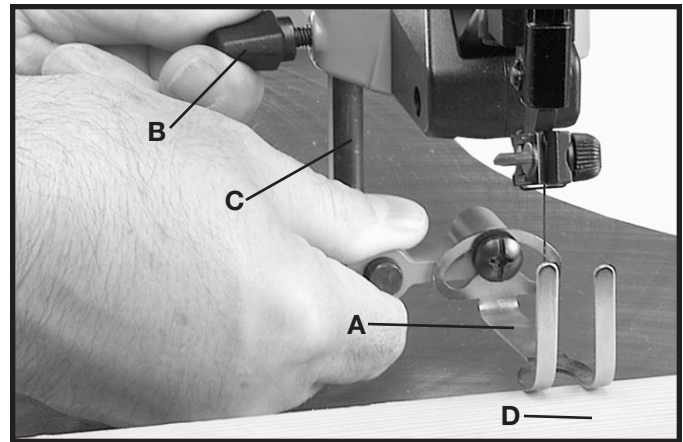
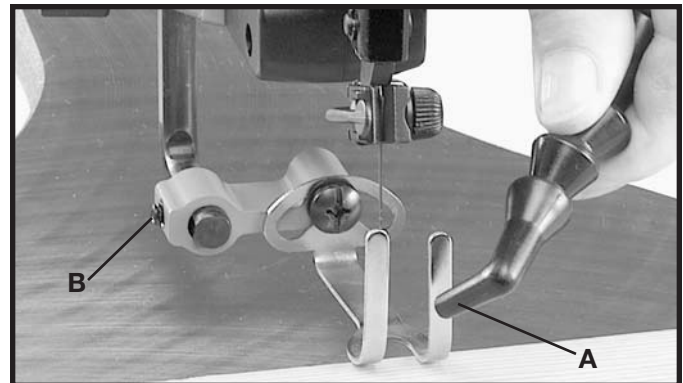

Fig. 15
Fig. 16
The holddown (A) Fig. 15, should be adjusted so it contacts the top surface of the work (D) being cut. Loosen lock knob (B) and move holddown rod (C) up or down, then tighten lock knob (B). The holddown (A) Fig. 15, may be adjusted front to rear, by loosening set screw (B) Fig. 16, and positioning the holddown in the desired location. Once the holddown is in the desired location, tighten set screw (B), Fig. 16.
The dust blower (A) Fig. 16, may be positioned to direct air to the most effective point on the workpiece.